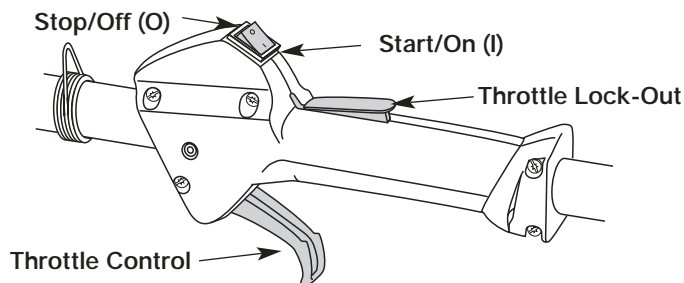

Figure 20
3. Put the Start/Stop Engine Control in the **START [I]** position. See Figure 20.
1. Put the Start/Stop Engine Control in the **START [I]** position. See Figure 20.
2. Put the On/Off Stop Control in the **OFF (O)** position. See Figure 20.